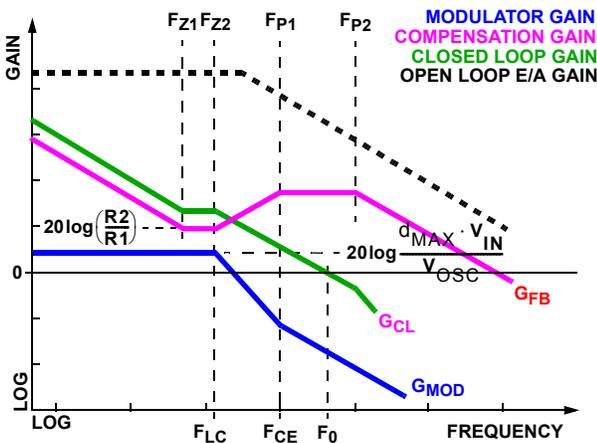

FIGURE 14. ASYMPTOTIC BODE PLOT OF CONVERTER GAIN
Figure 14 shows an asymptotic plot of the DC/DC converter's gain vs. frequency. The actual Modulator Gain has a high gain
peak dependent on the quality factor (Q) of the output filter, which is not shown. Using the above guidelines should yield a compensation gain similar to the curve plotted. The open loop error amplifier gain bounds the compensation gain. Check the compensation gain at  $F_{P2}$  against the capabilities of the error amplifier. The closed loop gain,  $G_{CL}$ , is constructed on the log-log graph of Figure 14 by adding the modulator gain,  $G_{MOD}$  (in dB), to the feedback compensation gain,  $G_{FB}$  (in dB). This is equivalent to multiplying the modulator transfer function and the compensation transfer function and then plotting the resulting gain.